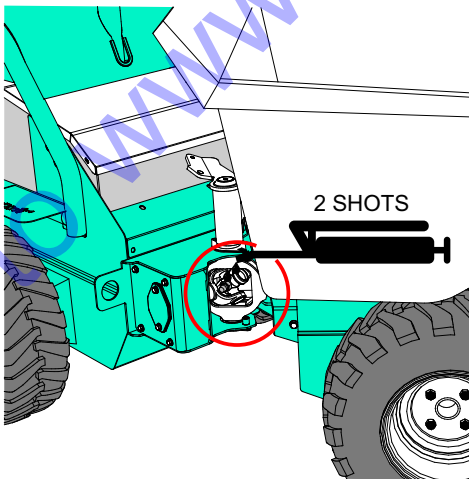

Figure 66. Zerk Fitting Lubrication
1. Lubricate the zerk fitting as shown in Figure 66 using lithium base grease, grade NO.1 once a year. Apply two shots of grease